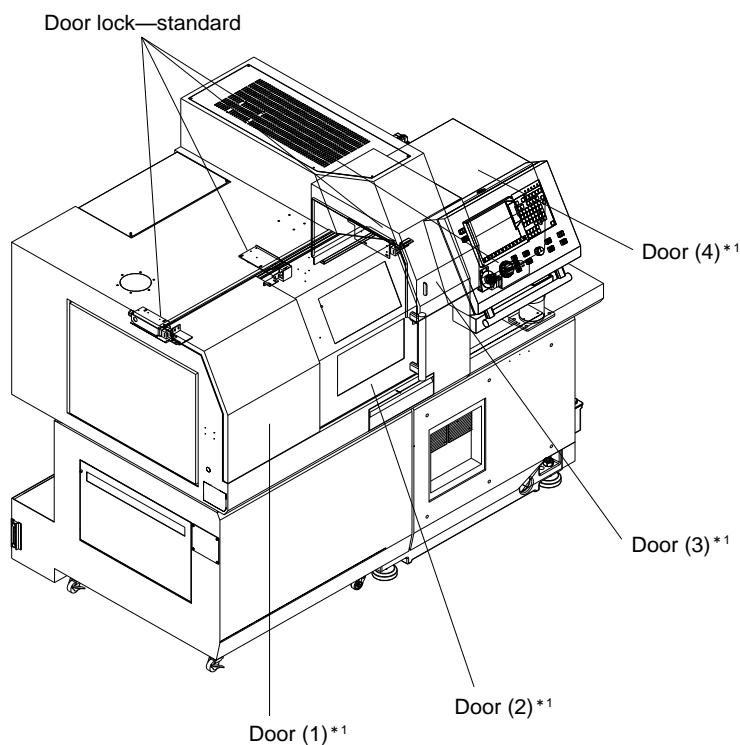
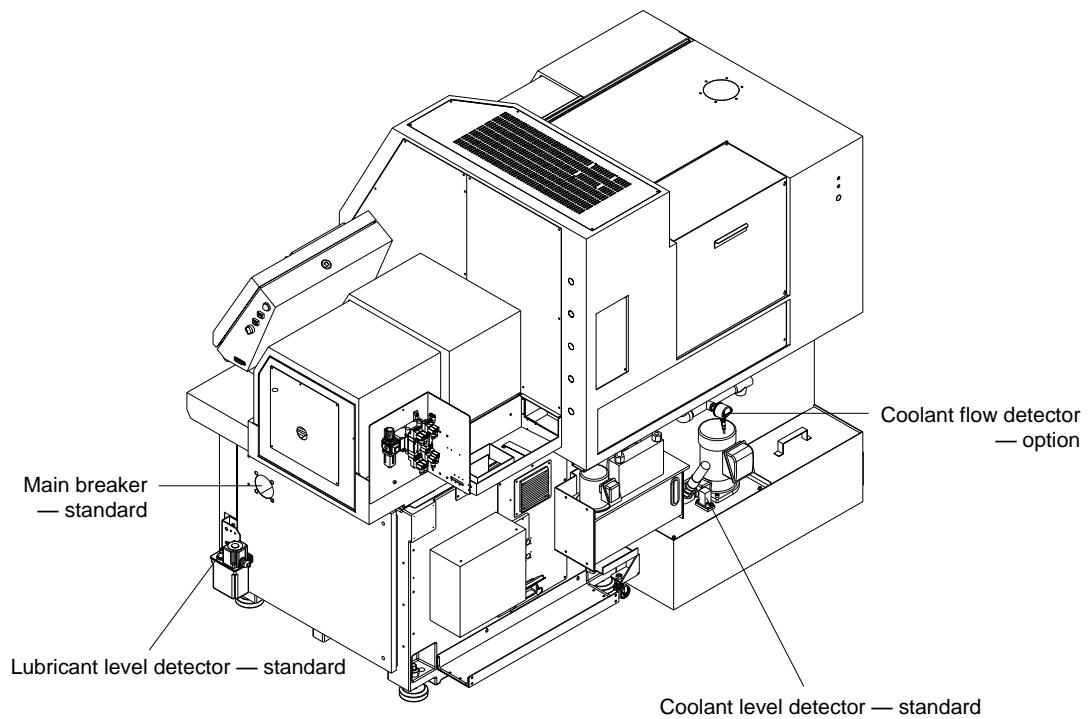

Figure 2.3-1 Locations of the safety devices (front view of the machine)
Figure 2.3-2 Locations of the safety devices (rear view of the machine)
<Figure 2.3-1> and <Figure 2.3-2> shows the locations on which safety devices are installed.
Door locks prevent any person from opening the doors of cutting room (1) and main spindle side (2) during machine operation. See *<Figure 2.3-1>*. These doors will open only when the Door open button  is pressed while the machine is stopped.